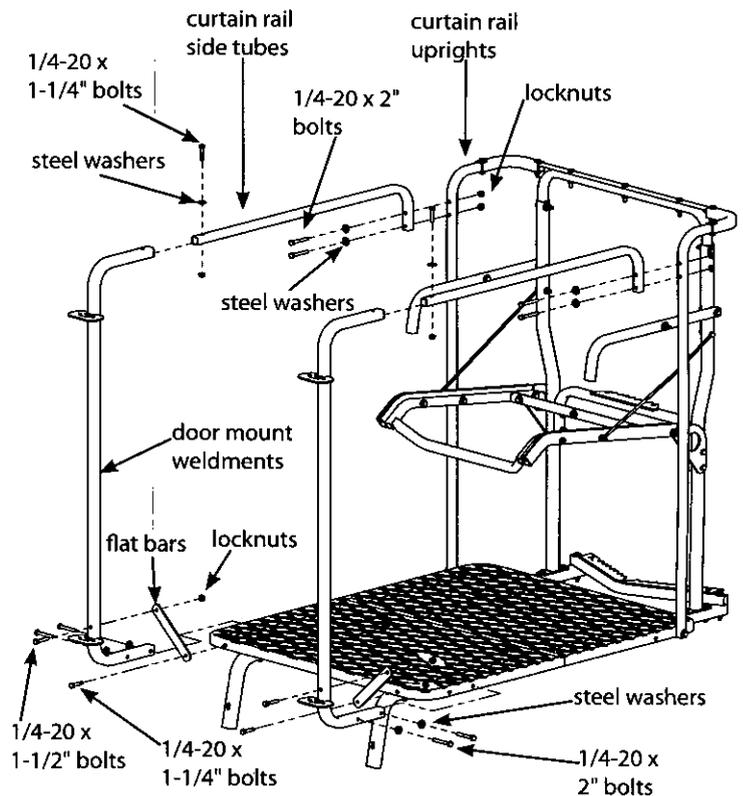

Figure 10
14. Attach the (2) curtain rail side tubes (410018) to the curtain rail uprights using (4) provided 1/4-20 x 2" bolts, locknuts and steel washers. **SEE FIGURE 10.**
15. a. Insert each curtain rail side tube into the door mount weldment (410011) and secure together using (2) provided 1/4-20 x 1-1/4" bolts, locknuts and steel washers. **SEE FIGURE 10.**
b. Attach the bottoms of each door mount weldment to the front platform using (4) provided 1/4-20 x 2" bolts, locknuts and steel washers **SEE FIGURE 10.**
16. Attach (2) flat bars (1ML40) to the front platform and door mount weldments using (2) provided 1/4-20 x 1-1/4" bolts, (2) 1/4-20 x 1-1/2" bolts and (4) locknuts. **SEE FIGURE 10.**